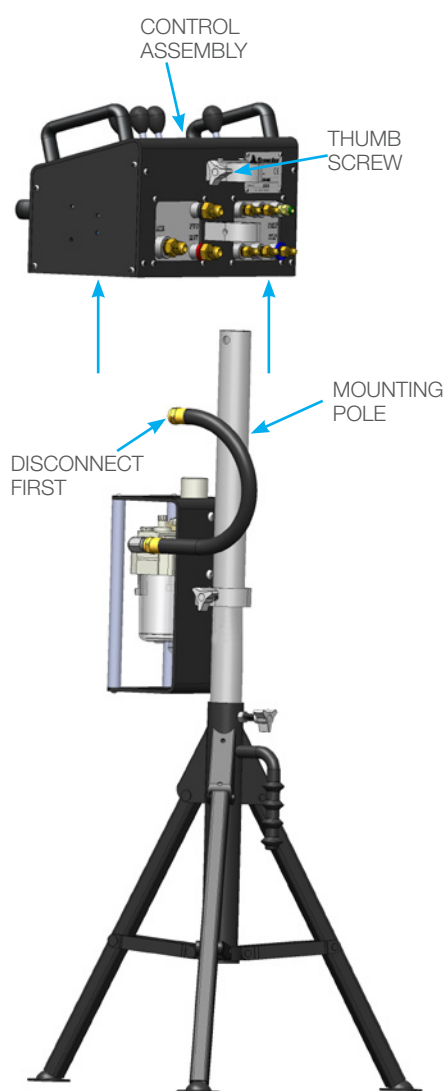

FIGURE 1
1. Disconnect the air hose from the back of the Control Assembly. Loosen the Thumb Screw on the Pole Mount on the Control Assembly. Carefully lift the Control Assembly off of the Mounting Pole and put aside. **(Figure 1)**